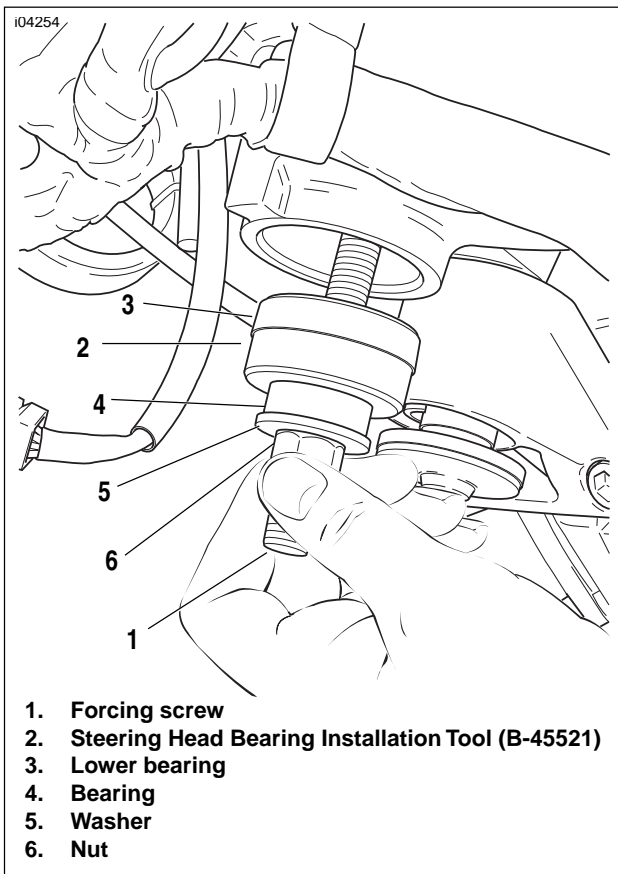

Figure 2-76. Lower Bearing
- See Figure 2-76. Sparingly apply EXTREME PRESURE LUBRICANT (Part No. J-23444-A) to the threads of the forcing screw (1) from the STEERING HEAD BEARING RACE INSTALLER (Part No. HD-39302), to prolong service life and ensure smooth operation. Insert the forcing screw (1) through the STEERING HEAD BEARING INSTALLATION TOOL (Part No. B-45521) (2).